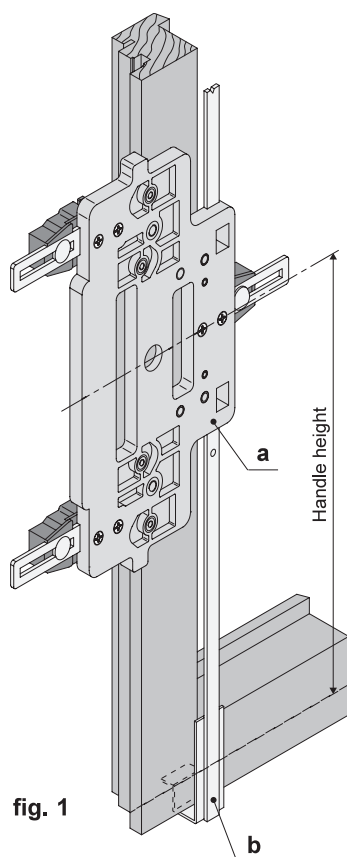

fig. 1
4) Rest the jig rod (art. A20030.00.00+M02030.00.01) on the stile of the sliding sash, making sure that the foot at the base of the jig rod matches the hardware installation rebate of the bottom rail (fig. 1).